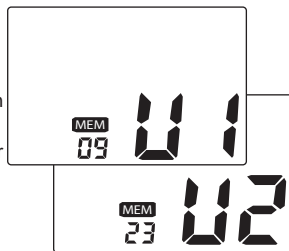

Fig. 1
1. Press and release the **MEM** button. The display will show the last memory bank used, U1 or U2, and the number of measurements in that bank, Fig 1. Press the **START** button if you wish to select a different memory bank.